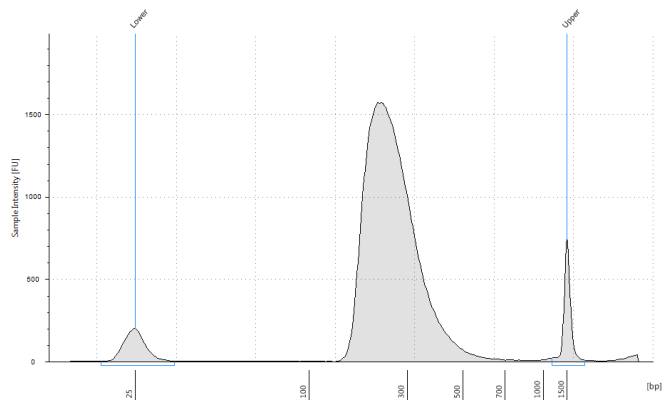

Figure 16 Analysis of amplified library DNA using a D1000 ScreenTape.
- 5 Verify that the electropherogram shows the peak of DNA fragment size positioned between 225 to 275 bp. A sample electropherogram is shown in **Figure 16**.